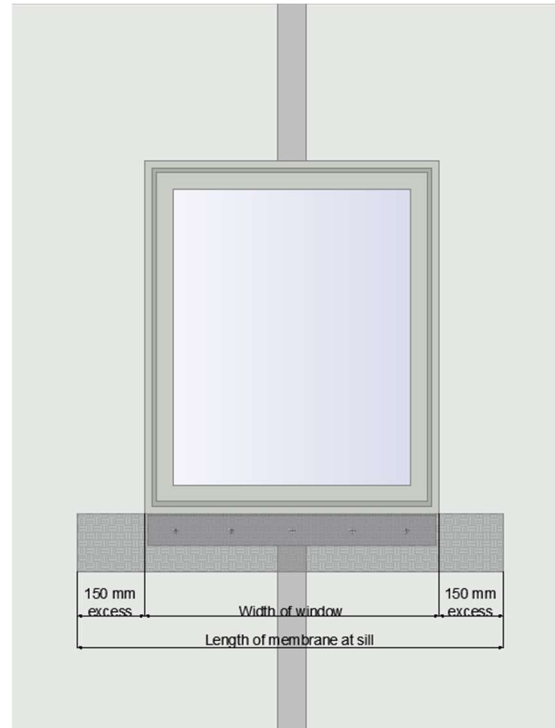

Figure 2
- For the membrane length, measure the window frame width and add 150 mm excess at each side of the frame (Figure 2).